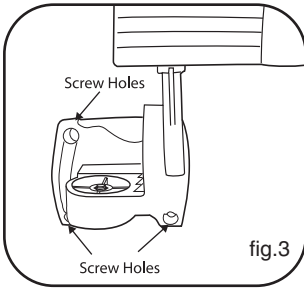

fig.3
3. Attach the main body and L-bracket to wall / mast mounting bracket using cross head screw (fig. 3), note the orientation of the bracket. Do not fully tighten this screw to allow for later adjustment (fig. 3).